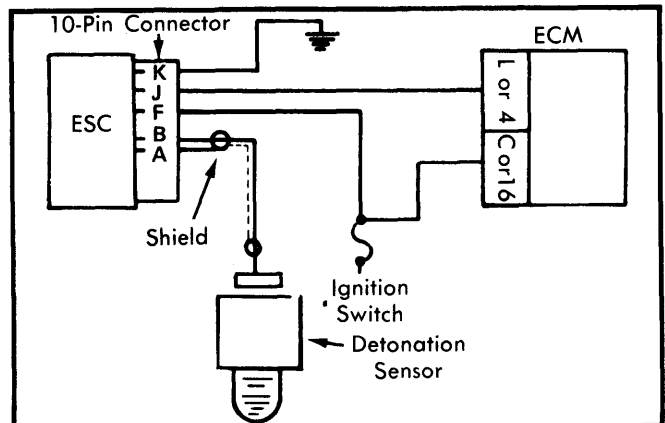

Fig. 4 Schematic of Electronic Spark Control System (ESC)
1) If complaint is "No Timing Change", proceed to step 4). If complaint is "Failure to Start", turn ignition switch "ON". Attach positive lead of voltmeter to terminal "F" of ESC controller, with negative lead touching terminal "K" of controller. See Fig. 4. If reading is under 10 volts, check for open condition from terminal "K" to ground and from terminal "F" to battery supply. Also check fuses.